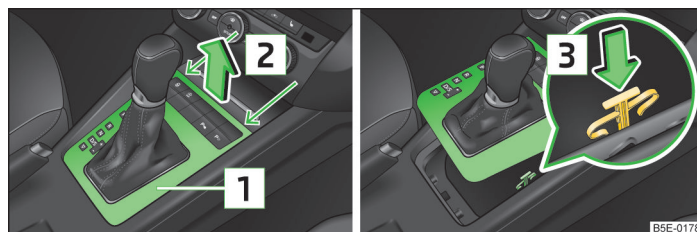

Fig. 212 Selector lever-emergency unlocking
- Grab hold of the cover [1] in the area of the arrows and carefully raise it forwards in the direction of the arrow [2] and then backwards » Fig. 212.